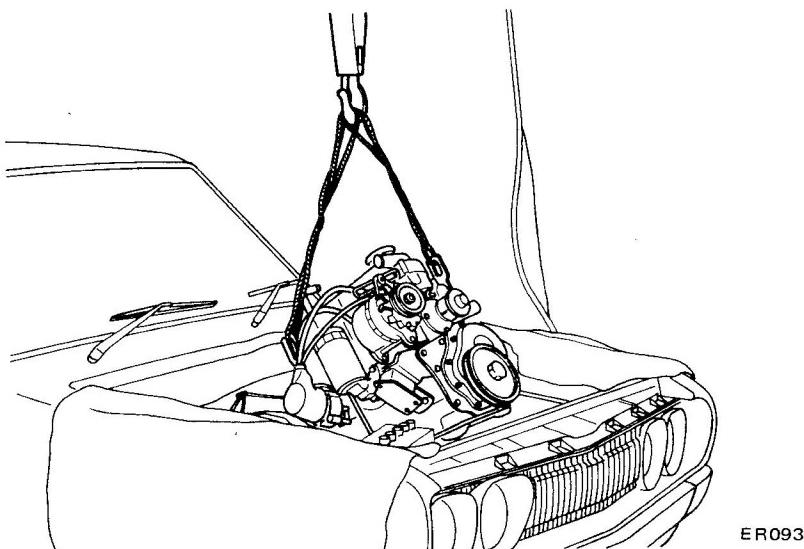

Fig. ER-12 Lifting engine and transmission
18. Pull engine towards the front as far as possible and carefully raise engine with transmission by means of a hoist and wire. See Figure ER-12.